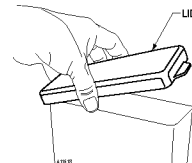

Figure 5e. Canister Lid
6. Remove lid from the canister. **Figure 5e.**
9. Replace canister lid. **Figure 5e.**